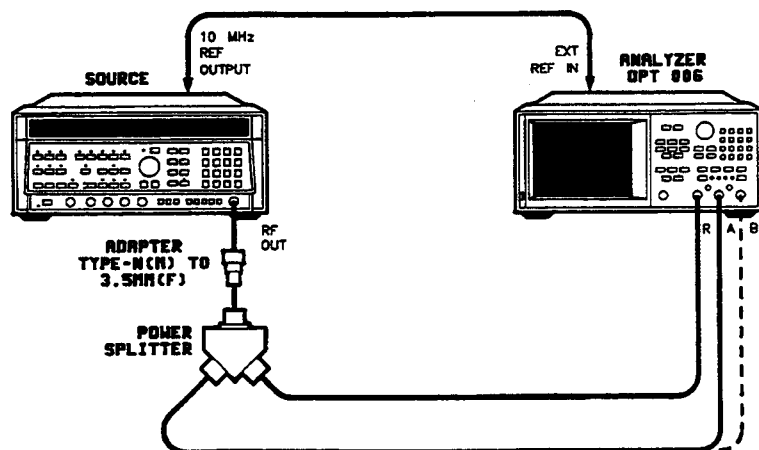

Figure 34. HP 8753B/C, HP 8702B Option 006 Frequency Response Test Setup
1. Connect the equipment as shown in Figure 34, with RF cables to inputs R and A. Turn on the instruments.
6. Move the RF cable from input B to input R as shown in Figure 34. On the analyzer press **[MKR] [D MODE MENU] [D MODE OFF] [MEAS] [A/R] ([MEAS] [INPUT PORTS] [A/R] for 8702) [FORMAT] [PHASE] [MENU] [CW FREQ] [1] [0] [M/u]**.